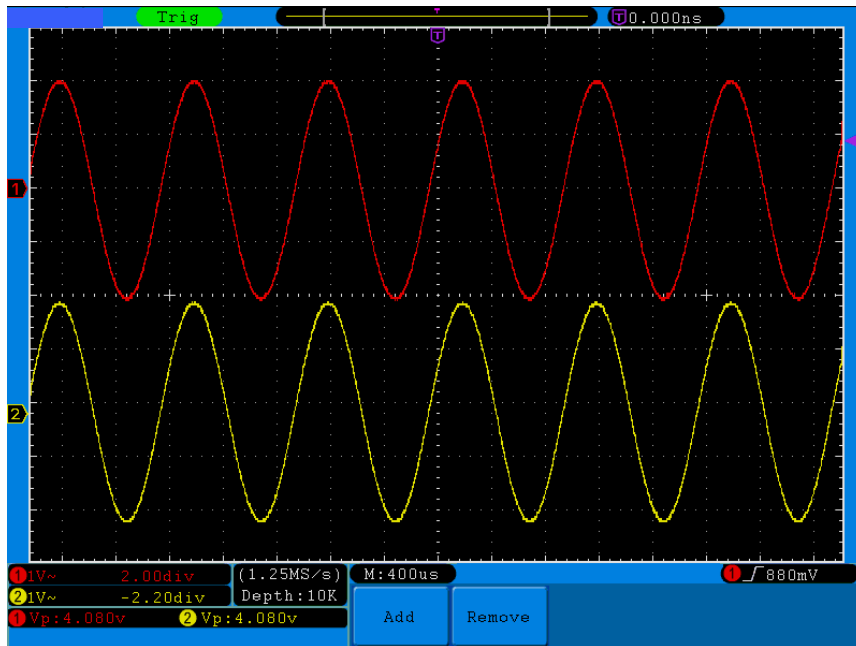

Figure 7-2 Waveform of Gain Measurement
- (1) Press the **Autoset** button and the oscilloscope will automatically adjust the waveforms of the two channels into the proper display state.
- (2) Press the **Measure** button to show the Measure menu.
- (3) Press the **H1** button.
- (4) Press the **F2** button and choose **CH1**.
- (5) Press the **F1** button and turn the **M** rotary control to choose **PK-PK**.
- (6) Press the **F2** button and choose **CH2**.
- (7) Press the **F1** button again and turn the **M** rotary control to choose **PK-PK**.
- (8) Read the peak-to-peak voltages of Channel 1 and Channel 2 from the bottom left of the screen (See *Figure 7-2*).
- (9) Calculate the amplifier gain with the following formulas.